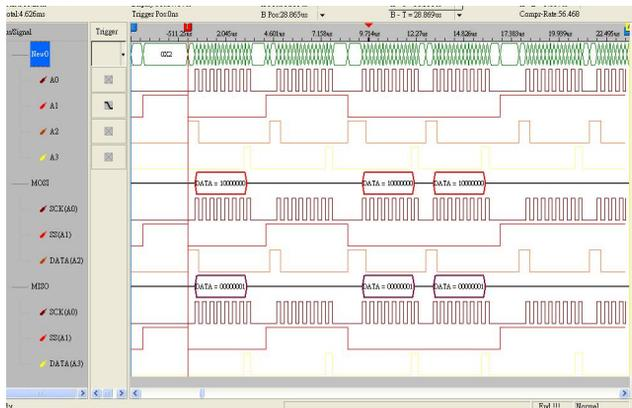

Fig 4-40 – Active SPI signal
- (5) Click on the “Don’t care data bits” function. The system will restart and count from the beginning of the data bits when the condition of the idling time set is qualified.
- (6) Click off the “Don’t care data bits” function, the system will decode the data stilly until the bits of the data are received completely, when the condition of the idling time set is qualified.
- (7) Then type the name and the numbers of the data bit for the MOSI signal.
- (8) Press OK to confirm the set up of SPI custom Setting and return to the dialogue of the SPI Setting. (Tip: Press Default to give up the current Setup conditions)
Step 6. Click Run, then Active the SPI signal from the tested SPI circuit to acquire the result on the bottom of the wave display area as shown in Fig 4-40.